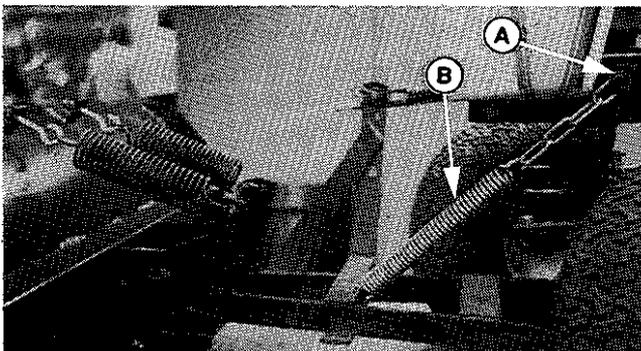

**Figure 3. Diagrams of Hitch Templates**
5. Drill a hole in the bottom cross member (42" blade on Group 1, 3 and 4 Series tractors) or upper cross member (42" blade on Group 2 tractors) according to the diagrams of the templates in **figure 3**. Actual templates are on a separate insert included with these instructions.
Actual Templates of Figure 3.